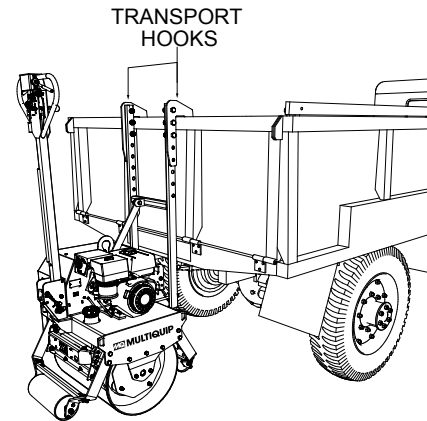

Figure 6. Transport Hooks
13. **Transport Hooks** — These hooks are used in the transportation of the roller (Figure 6). The hooks allow the roller to hang over the tailgate of a dump truck.